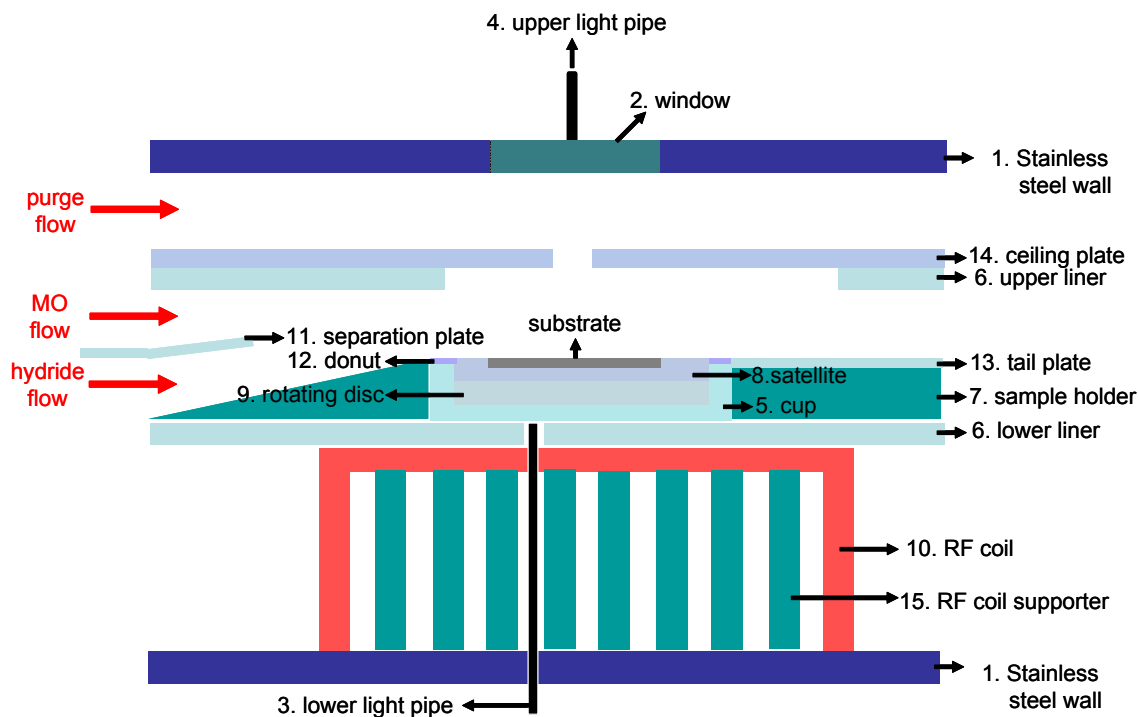

Figure 1: Schematic diagram of 200/4RF-S MOVPE reactor
This teaching module describes the basic design of the Aixtron 200/4RF-S MOVPE reactor system. Generally, the design of MOVPE reactors is divided into two types of designs with different gas-flow geometry. One type of design is the *vertical type reactor* and the other is the *horizontal type reactor*. In the vertical type reactor, the carrier gas and the precursor gases flow in the vertical direction. In the horizontal type reactor, the gas flow is in the horizontal direction. Our Aixtron 200/4RF-S MOVPE reactor has a horizontal type reactor design. **Figure 1** shows the schematic diagram of the Aixtron MOVPE reactor.
The epitaxial growth process takes place within the liner tube (part #6) wherein the sample holder (part #7) with the corresponding satellite is located in a gas flow. The upper and lower liner wall, shown separately in **Figure 1** has the shape of a tube. The satellite (part #8) is a SiC coated graphite disc. The substrate, for example sapphire, is located on the satellite. Beneath it, there is a SiC coated graphite disc, called the rotation disc (part #9). The flow of gas through openings in the rotation disc makes the satellite rotate. The rotation disc is heated by the radio-frequency (RF) wave from the RF coil (part #10) and the heat is transferred to the rotating satellite, predominantly by thermal radiation.
As shown in the **Figure 1**, there is a gas-separation plate (part #11) at the reactor entrance point. The function of the gas-separation plate is to keep MO and hydride precursor gases separated so that they will meet only shortly before the substrate. This is done to avoid chemical pre-reactions that results in unwanted adducts and low growth efficiency (A chemical **adduct** is a product of a direct addition of two or more distinct molecules [1]. For example, TMAI-NH₃ is an adduct product of TMAI and NH₃). In our MOVPE system, the hydride gas (NH₃) flows below the separation plate so that the ammonia (NH₃) is closer to the hot substrate. This is done because ammonia is a compared that is harder to crack than the metal organic precursors.
- **Measured reactor temperature:** This is the temperature measured by the lower light pipe as shown in **Figure 1**. The light pipe tip position is a little bit below the cup.
- **Measured surface temperature:** This is the temperature measured by the upper light pipe which is located on the top of the reactor as shown in **Figure 1**.